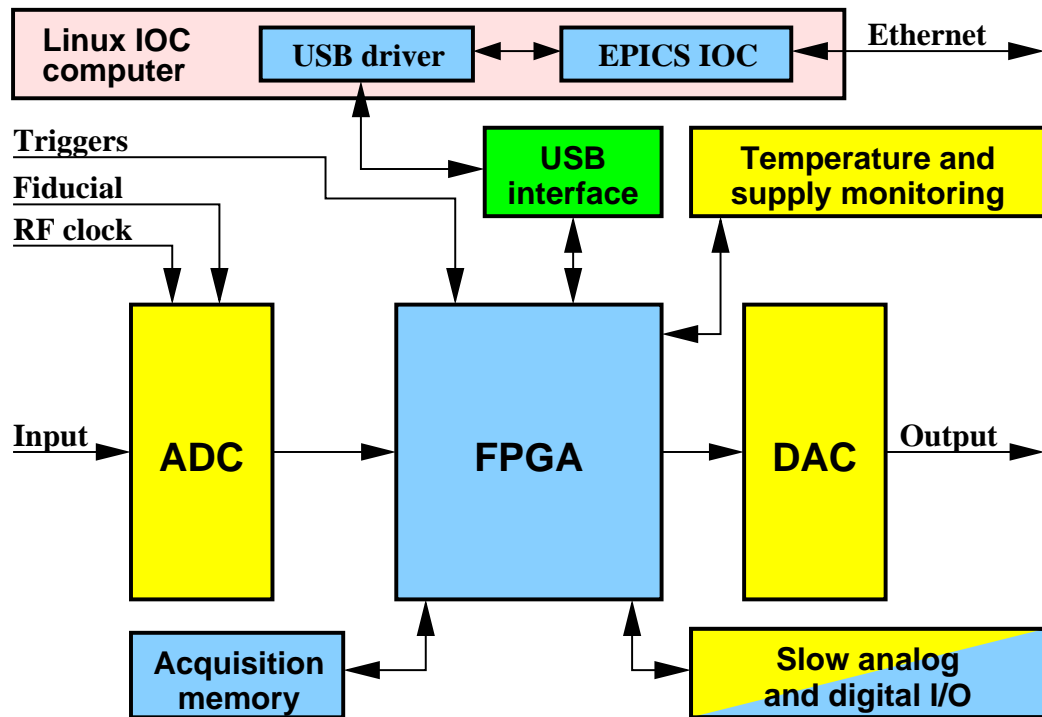

Figure 1: iGp12-120F block diagram
A block diagram of the iGp12-120F system is shown in Figure 1. The main signal processing chain consists of a high-speed 12-bit analog-to-digital converter (ADC), a field programmable gate array (FPGA), and a high-speed 12-bit DAC, all driven by the radio frequency (RF) clock. In addition to performing real-time control computations, the FPGA interfaces to a number of on-board devices, such as high-speed data acquisition memory (static random access memory (SRAM)), low-speed analog and digital input/output (I/O), as well as temperature and supply voltage monitors. In turn, the FPGA uses an internal universal serial bus (USB) connection to communicate to an embedded input-output controller (IOC) computer housed in the same chassis. The IOC runs the Linux operating system and is connected to the overall control system via the Ethernet.